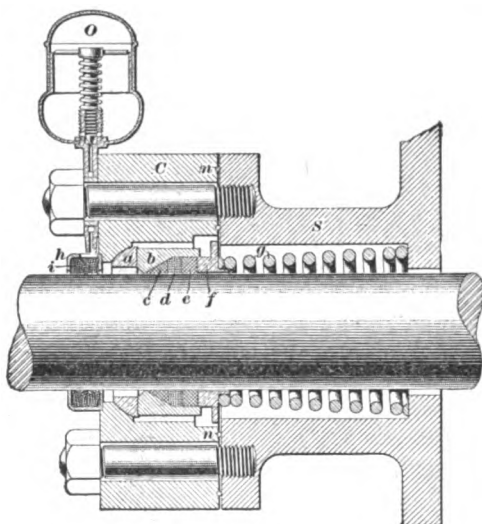
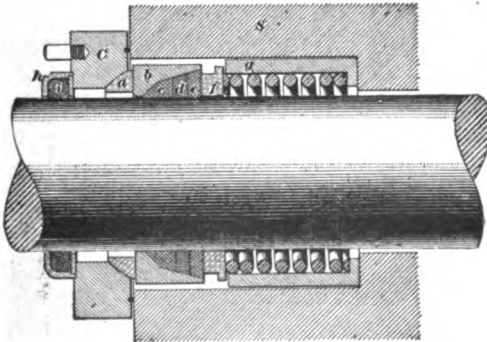

FIG. 18.
FIG. 20.
**19. United States Metallic Packing.**—A sectional view of this metallic packing is shown in Fig. 18. It consists of the gland *C* that is bolted to the stuffingbox *S*, some Babbitt rings, and a spring, suitably arranged. A steam-tight joint is made between the gland *C* and the stuffingbox *S* by means of the two gaskets *n, n*. The packing consists of the three Babbitt rings *c, d*, and *e* contained in the vibrating cup *b*, the interior of which is in the form of a cone. One face of the brass ring *a* is turned spherical, so as to form a joint with its seat similar to a ball joint, while the other face is flat and forms a flat joint with the cup *b*. The brass ring *f*, called the *follower*, bears against the face of the ring *e*, so that the tension of the spring *g* is always exerted to keep the packing rings, vibrating cup *b*, and the ring *a* in position. This tendency of the spring and of the
is shown in Fig. 20. Comparing this with Fig. 18, it will be seen that the improvement in the present packing lies in the bore of the vibrating cup *b*. In the old-style cup this bore is made